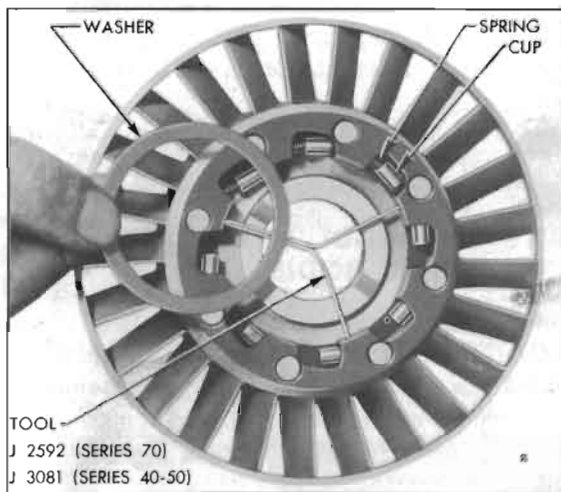

Figure 4-97—First Position of Primary Stator Assembly Tool
4. Install Primary Stator Assembly Tool J 2592 (Ser. 70) or J 3081 (Ser. 40-50) in primary stator so that the three points of tool are between the roller recesses, then place the roller assembling washer flat on the tool. See figure 4-97.